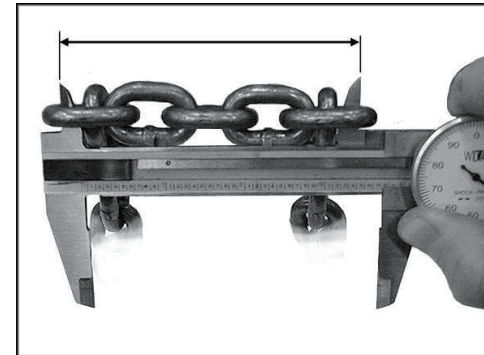

FIG 12
- Carefully inspect the entire load chain. As illustrated in (FIG 12), measure five consecutive links with calipers to find the length. Compare the results with the table in (FIG 12). Check every three feet and especially where excessive wear is indicated. Any load chain that shows noticeable deformation or heat influence must be replaced with a new one.